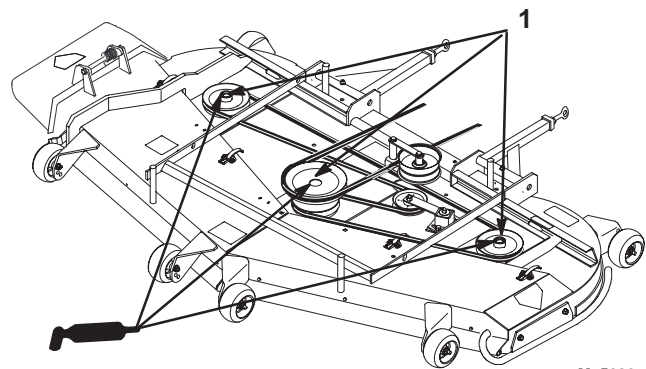

Figure 7
1. Grease the fittings on the three spindle bearings. Grease until it comes out lower seals (Fig. 7).